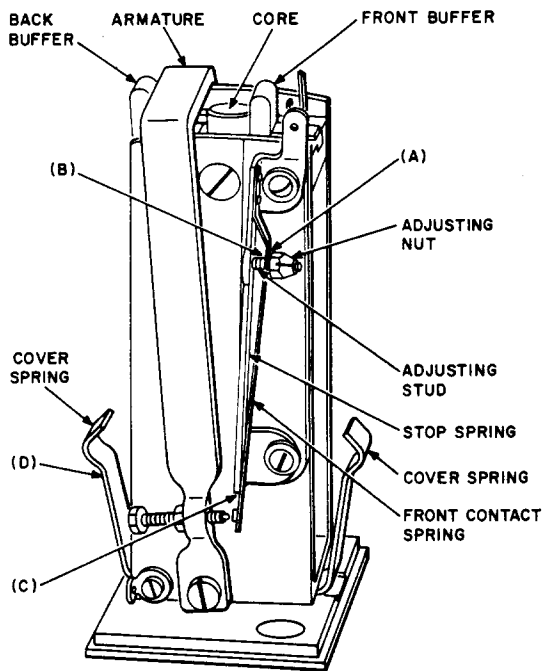

Fig. 1 — 85F-Type Relay — Arrangement of Operating Parts
2.03 *Cover Spring Pressure* — Fig. 1 (D): The cover springs shall have sufficient pressure against the cover to hold the cover securely in place. Gauge by feel.
2.04 *Adjusting Nut Tightness — 85F-Type Relay:* The adjusting nut shall be sufficiently tight on the adjusting stud to hold any adjusted position. Gauge by feel. See Fig. 1(A).
2.05 *Adjusting Stud and Contact Spring Clearance* — Fig. 1(B): The front contact spring shall not bind on the adjusting stud. Gauge by feel.
2.06 *Front Contact Spring Position* — Fig. 1 (C): The front contact spring shall rest against the stop spring at the end nearest the contact when the relay is unoperated. Gauge by eye.